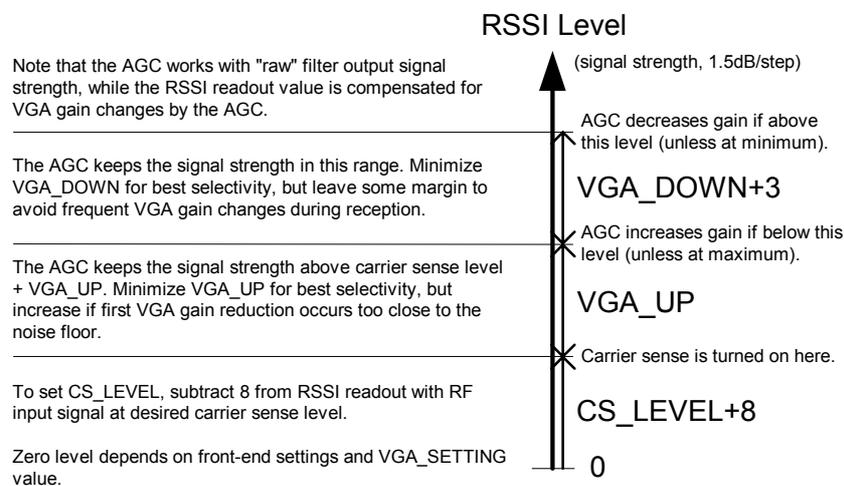

Figure 20. Relationship between RSSI, carrier sense level, and AGC settings *CS_LEVEL*, *VGA_UP* and *VGA_DOWN*
A digital RSSI is used to measure the signal strength after the ADC. The *CS_LEVEL[4:0]* in the *VGA4* register is used to set the nominal operating point of the gain control (and also the carrier sense level). Further explanation can be found in Figure 20.
5. If desired, adjust the *VGA_UP* and *VGA_DOWN* settings according to the explanation in Figure 20.
CS_LEVEL[4:0] sets the threshold for this specific *VGA_SETTING[4:0]* value. If the *VGA_SETTING[4:0]* is changed, the *CS_LEVEL[4:0]* must be changed accordingly to maintain the same absolute carrier sense threshold. See Figure 20 for an explanation of the relationship between RSSI, AGC and carrier sense settings.